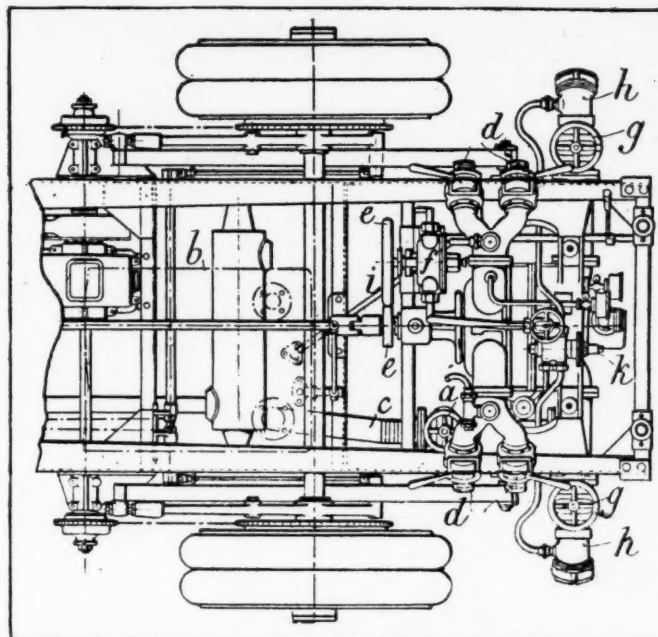

Fig. 3—Rear end of Fiat fire engine chassis with centrifugal pump
**Fiat Fire Engine**—The rear end of a fire engine chassis as built by the Fiat company of Italy is shown in Fig. 3. It is driven and operated for fire extinguishing purposes by a 45 horsepower gasoline motor, and the complete vehicle with 17 men on board and equipped with ladders and a reel can be driven on level ground at a speed of 25 kilometers per hour and is capable of climbing grades of up to 16 degrees. The chassis alone weighs about 2100 kilograms. According to a statement in *Zeitschrift des Vereines Deutscher Ingenieure*,